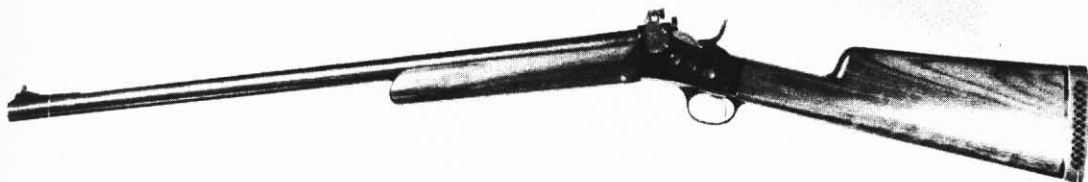

Fig. 2-4. A .45-70 sporting rifle built on the Model 1902 No. 1 Remington rolling block action.
- Remington No. 1 Smokeless Action (Fig. 2-4) (with 1901 or later patent date)
This action (Fig. 2-4) is suitable for any of the cartridges listed in Groups 1, 2, 3, and 4, and for any of the following cartridges: